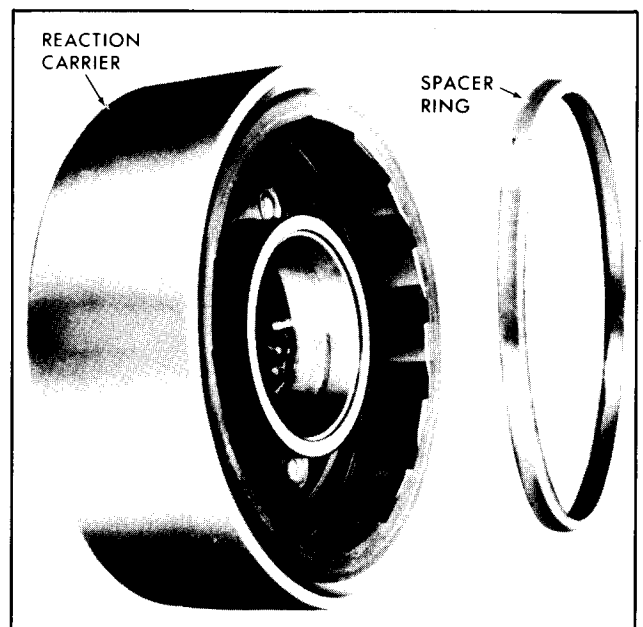

Figure 52—Reaction Carrier with Spacer Ring
7. If the reaction carrier has a spacer ring in an undercut at the bottom of the roller cam vamps, inspect it for damage, Figure 52.